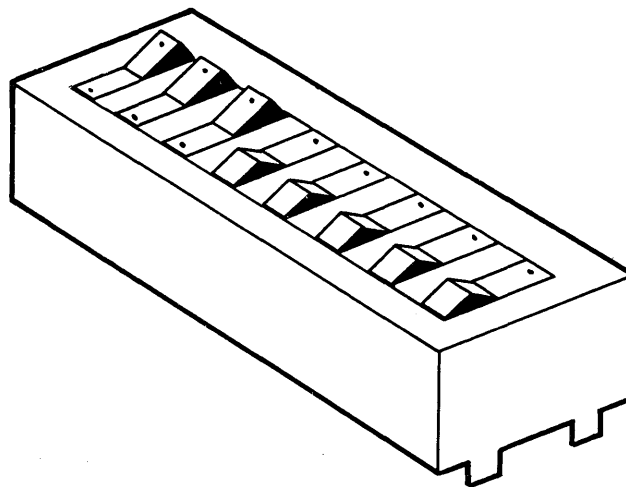

Figure 2-11 Dipswitches
3. Set dipswitches 1 through 3 using the settings described in Tables 2-2 and 2-3. (Figure 2-11 illustrates closed and open dipswitches.)